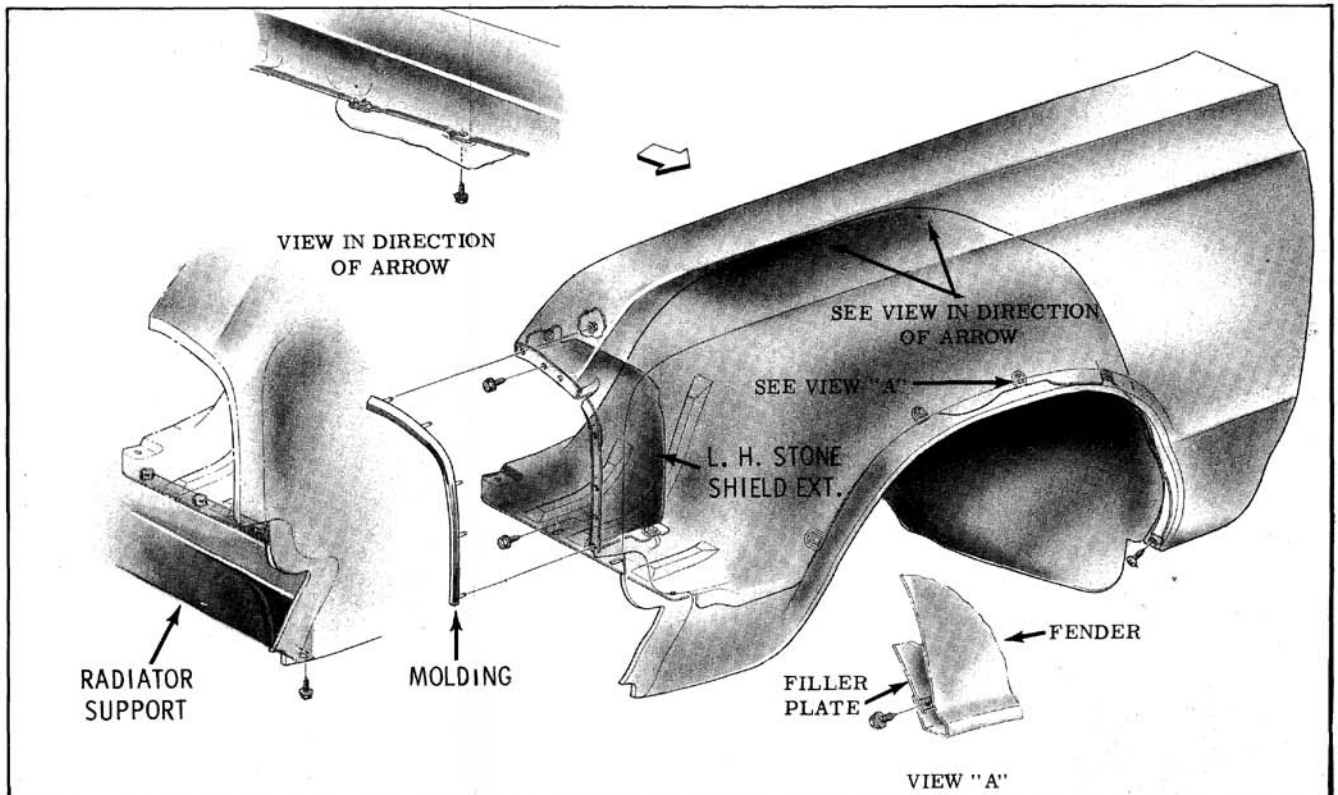

Fig. 15-117 Filler Plate
5. Along inner fender flange, remove two screws securing fender filler to fender. (Fig. 15-117)
### FILLER PLATE (Fig. 15-117)